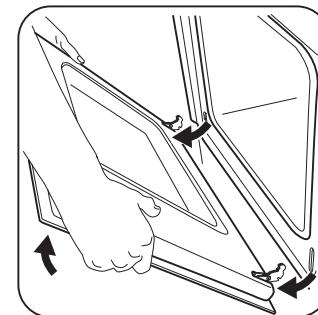

Figure 32: Holding door for removal
3. Firmly grasp both sides of oven door along the door sides. Do not use the oven door handle. Close the oven door halfway to the first opening position. Then, pull forward and remove the door from its seat (Figure 32).
1. Firmly grasp both sides of oven door along the door sides. Do not use the oven door handle (Figure 32).
2. Holding the oven door at the same angle as the removal position, seat the hook of the hinge arm over the roller pins located on each side of the oven door frame (Figure 32). The hook of the hinge arms must be fully seated onto the roller pins.